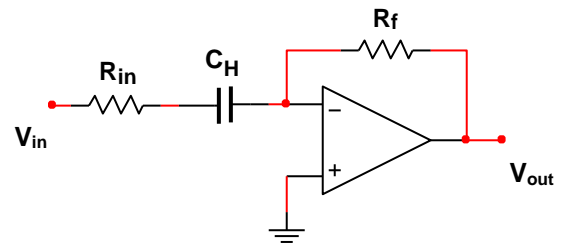

Figure 4 – Active 1st Order High-Pass Filter
**Figure 4** shows how we can make the inverting amplifier into a high-pass filter by rearranging the capacitor to be in series with the input resistor. The transfer function then becomes: